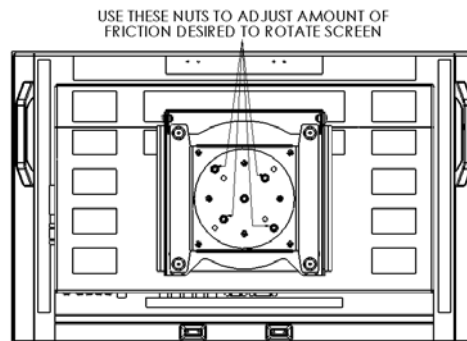

Figure 7
- Set desired amount of friction for rotating the screen by tightening or loosening the four nuts on the backside of the MAC-400. See Figure 7.